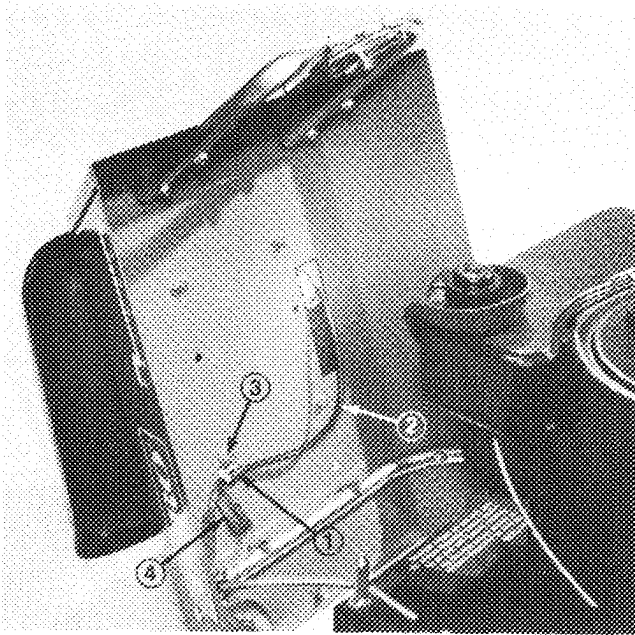

Figure 1A
1. Position seat onto rear body, inserting seat switch cable through slot (Fig. 1A).
5. Insert seat switch connector into wire harness connector (Fig. 1A).